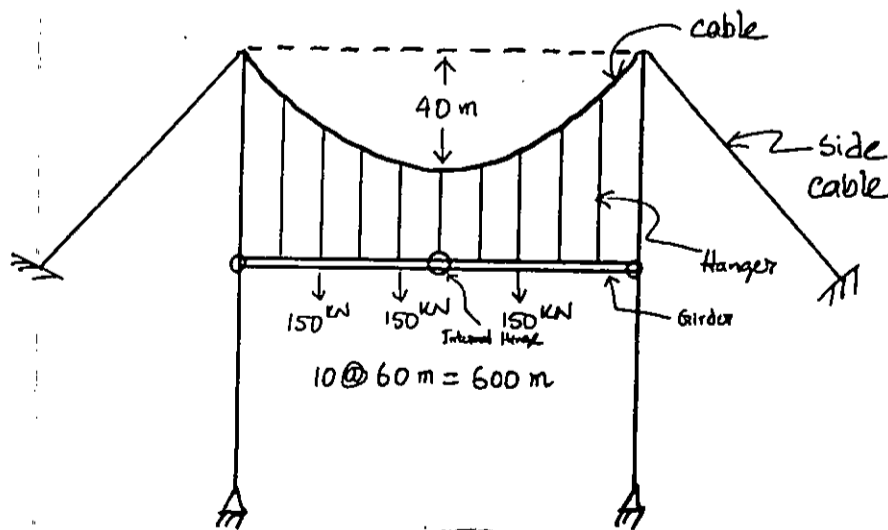

Fig. 10
- (b) A girder shown in Fig. 10 is suspended from a parabolic cable of a suspension bridge. Draw bending moment diagram of the girder when the structure is subjected to the loading shown in figure. (23)